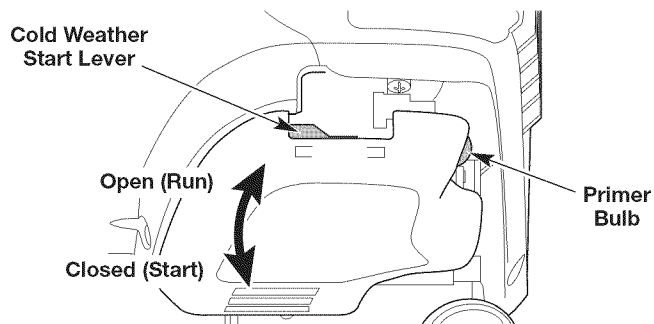

Fig. 9
IF COLD... In cold weather (below 40°F), move the cold weather start lever down to the closed position (Fig. 9). **DO NOT** move the lever down if the temperature is above 40°F.
3. Slowly press and release the primer bulb **10 times** (Fig. 9). If fuel cannot be seen in the primer bulb, press and release the primer bulb until fuel is visible.
IF COLD... In cold weather (below 40°F), move the cold weather start lever back up to the open position (Fig. 9).